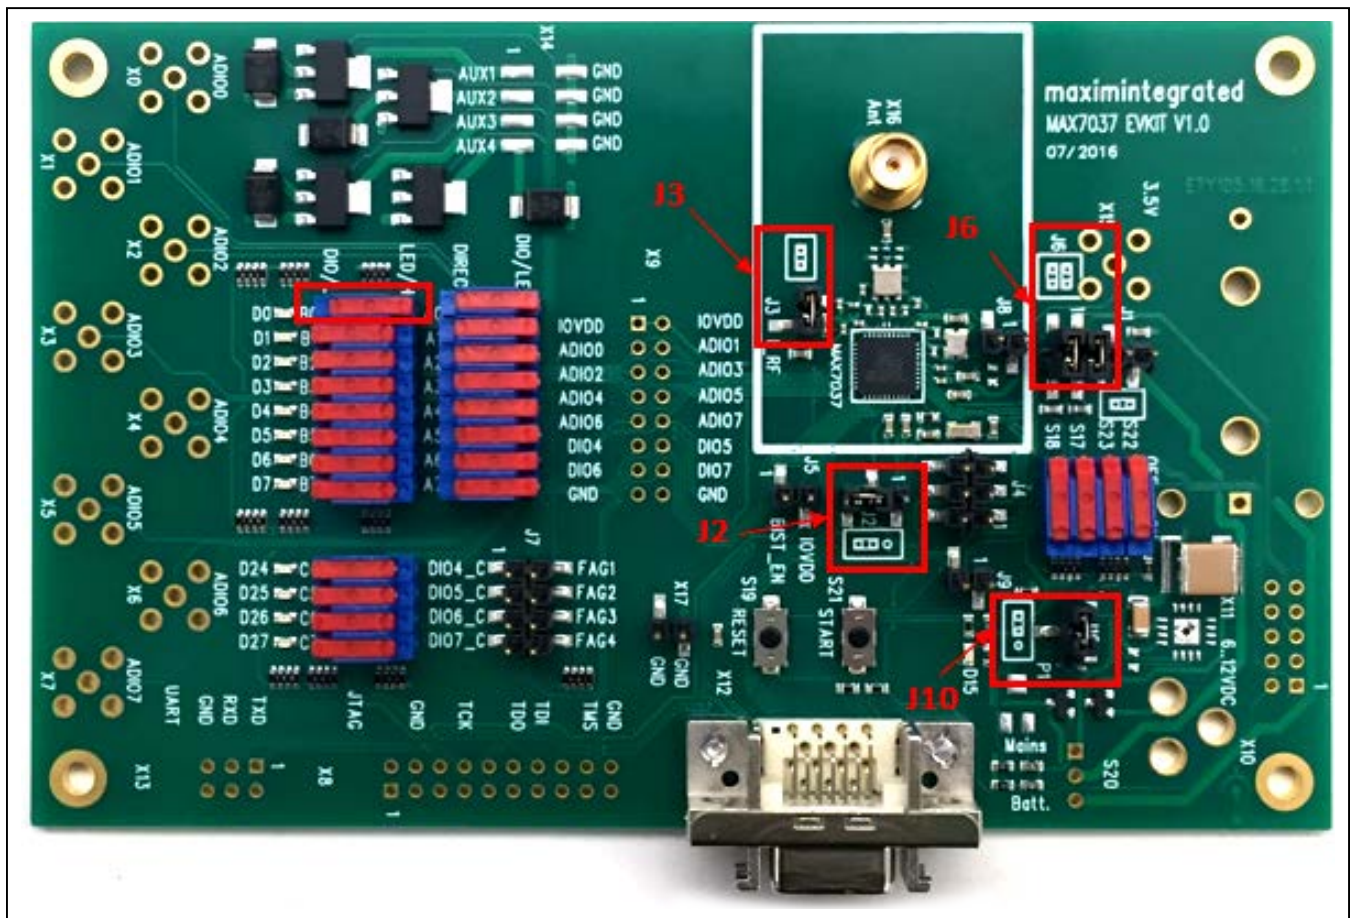

Figure 1. MAX7037 EV Kit Photo Jumpers Location
Shunt J2, J3, J6, J10. J2 has three pins. The two that are shunted are the ones indicated as shunted on the silk-screen of the EV kit (Figure 1, they are the left-most two pins). J10 also has three pins. The two that are shunted are the ones indicated as shunted on the silkscreen of the EV kit (top-most two pins in Figure 1). Any jumpers or headers not mentioned here should be left unshorted. Figure 1 shows the location of these jumpers.
- The four-switch DIP labeled S22, S23, S17, and S18 should all be slid to the upper position, as displayed in Figure 1.
- The four-switch DIP labelled DIO4–DIO7 should all be slid to the left position, as shown in Figure 1.
- The 8-switch DIP labelled IOVDD, ADI00–ADI02, ADI04, ADI06, DI04, DI06, and GND should all be slid to the right position, as shown in Figure 1.
- The 8-switch DIP labelled A0 – A7 should have all but the top-most switch slid to the left, as shown in Figure 1. The top switch of this particular DIP (i.e., the A0 switch) should be slid to the right.